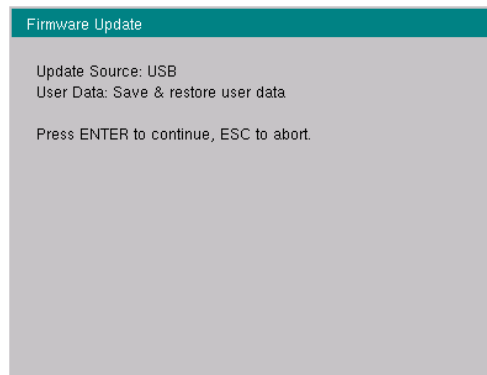

Figure 5-8. Firmware Update Menu
7. The Firmware Update dialog will query you to confirm the process by pressing **Enter** to continue or **Esc** to abort (Figure 5-8).